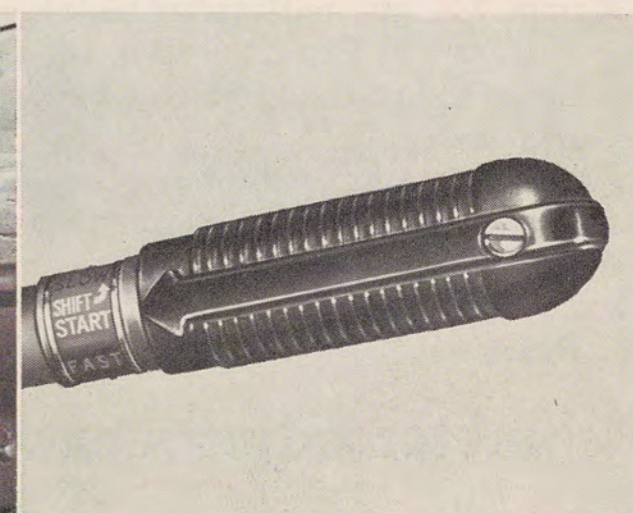

Figure 14
“Spark” and “throttle” are synchronized by a system of linkage to correctly proportion degree of spark advance with respect to volume of fuel charge admitted throughout entire speed range of the motor. Desired motor speeds (within capacity of the motor) are thus obtained by manipulation of the control grip (Figure 14)
- Turn speed control grip to position marked START as indicated on the steering arm (Figure 14), then turn control grip toward FAST position until it stops against speed limit control for neutral operation.